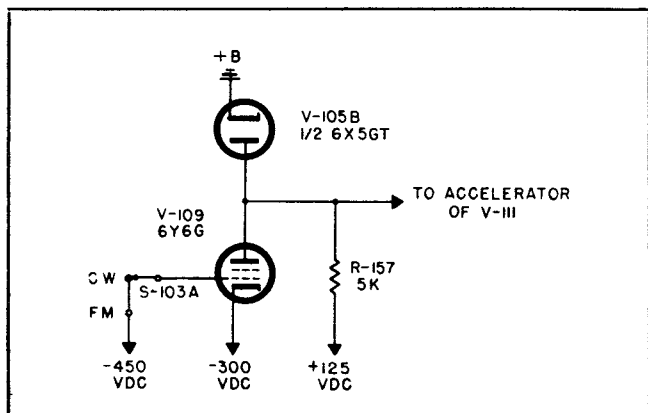

Figure 3-17. Switching Arrangement for CW and FM Operation
g. CW and FM OPERATION.—On both CW and frequency-modulated CW of the reflex klystron oscillator (figure 3-17), the grid of V-109 is tied to a point below cut-off so that the plate of V-109 is at a high dc potential with respect to the cathode of V-111. Since the plate of V-109 is directly connected to the accelerator grid of the reflex klystron, and since the grid of the klystron is at a potential high enough to allow the tube to oscillate, continuous wave oscillation of the klystron occurs.